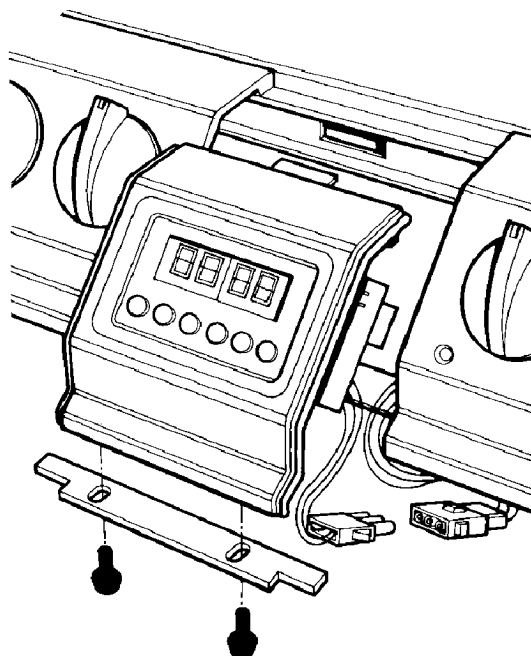

Fig. 23
2. Remove timer casting bar and screws (2).
3. The timer assembly can now be eased out to disconnect wiring. (See Fig. 23).